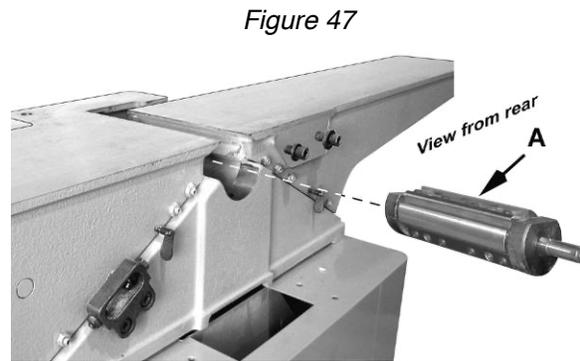

Figure 48
7. Carefully remove the cutterhead (A, Fig. 48).